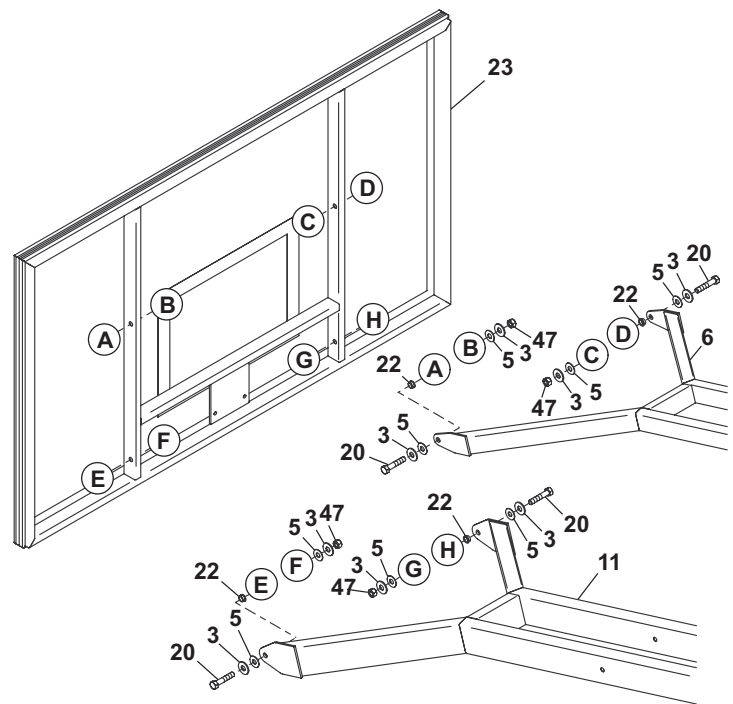

Figure 10
- With at least three capable people, raise the backboard assembly up and have the fourth attach Lower Board Arms to lower mounting holes on backboard using two bolts (#20), two step bushings (#22) (shipped already installed), four plastic washers (#5), four flat washers (#3) and two hex jam locknuts (#47). See Figure 10.
- Attach Upper Board Arms to upper mounting holes on backboard using two bolts (#20), two step bushings (#22) (shipped already installed), four plastic washers (#5), four flat washers (#3) and two hex jam locknuts (#47). See Figure 10.